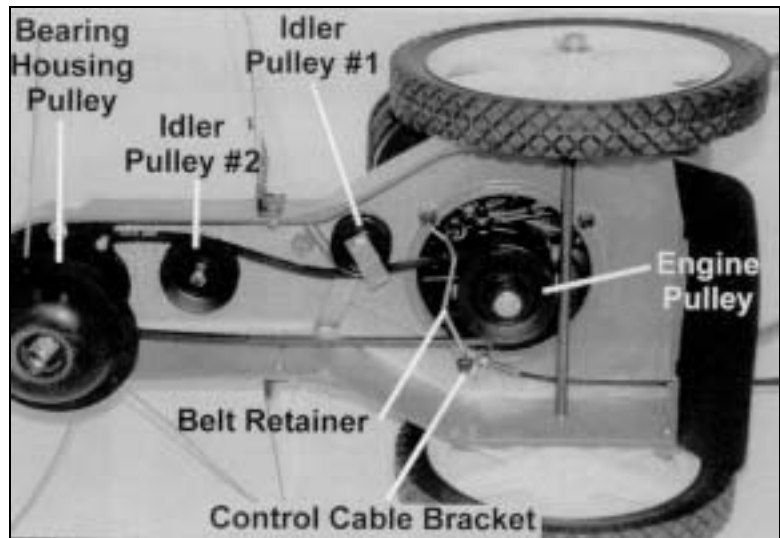

Figure 33
2. Mount the belt around the bearing housing pulley. Be sure the belt is placed on the INSIDE of the belt guides and that the other end of the belt goes through the belt retainer and around the engine pulley (*page 26, Figures 33 & 34*). Also, be sure the belt is on the INSIDE of the idler pulley #1.
Figure 33 shows the belt and pulley system from the underside of the machine.
1. Remove the old belt. Take the new belt and loop it over the bearing housing pulley and in between the belt guides (Figures 33 & 34).
2. Put the opposite end of the belt around the engine pulley, making sure the belt is **INSIDE** the belt retainer and on the **INSIDE** of idler pulley #1 (Figures 33 & 34).
Before making any adjustments to the trimmer control cable, check that the belt is mounted on the correct side of the idler pulley (see page 26, Figure 33), and is not frayed, worn or stretched.